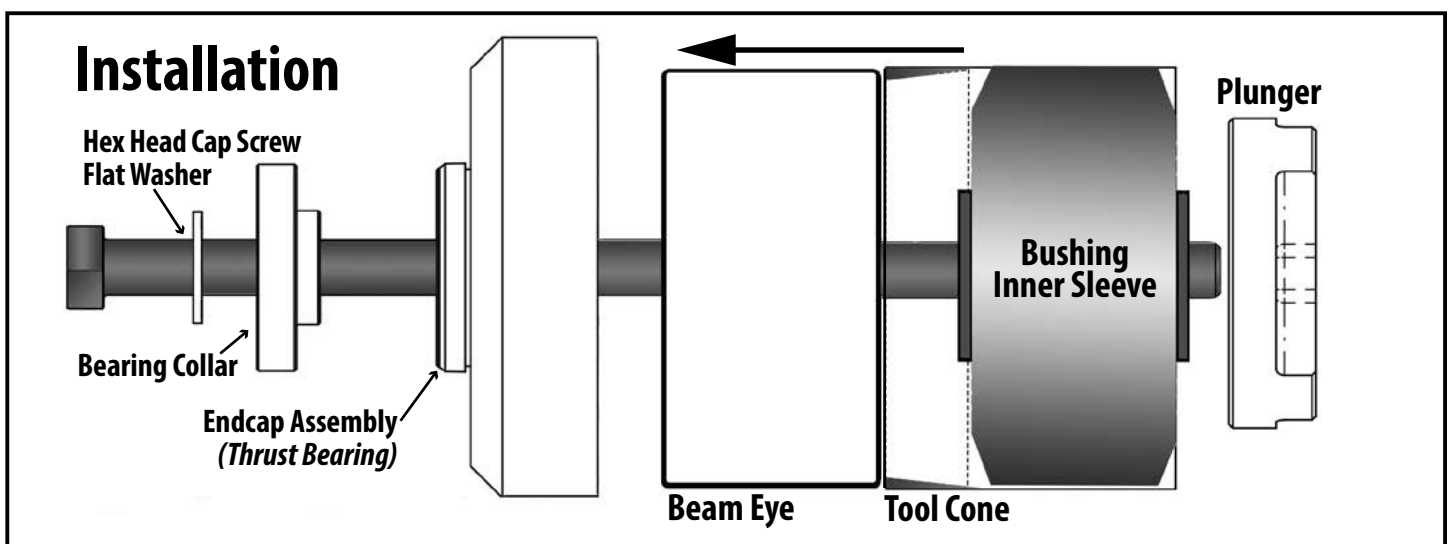

Figure 9.
2. Liberally apply P80[®] lubricant or a soap solution to the inside of the beam eye, the outside of the new bushing and inside the tool cone. Insert new bushing into the larger opening of the tool cone (Figure 9).